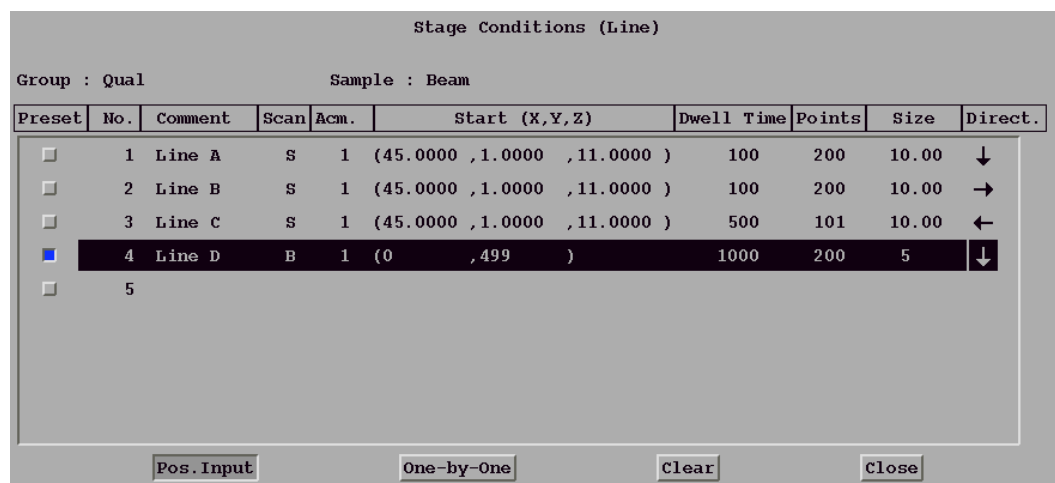

Fig. 15 Stage Conditions (Line) window
1. Select **Measurement–Stage Condition** in the Line Analysis function window. The Stage Condition (Line) window opens as shown in Fig. 15.
In this window, specify the analysis position for that point by entering data necessary for the items described on the following pages. Clicking on the arrowhead buttons ▲, ▼ at the lower right corner of the Line Input window moves up or down by one the line of the analysis point number shown in Fig. 15.
These conditions will be displayed on the highlighted line in the Stage Condition window of Fig. 15.
The program executes measurement on the analysis number in the highlighted line, as shown in Fig. 15.